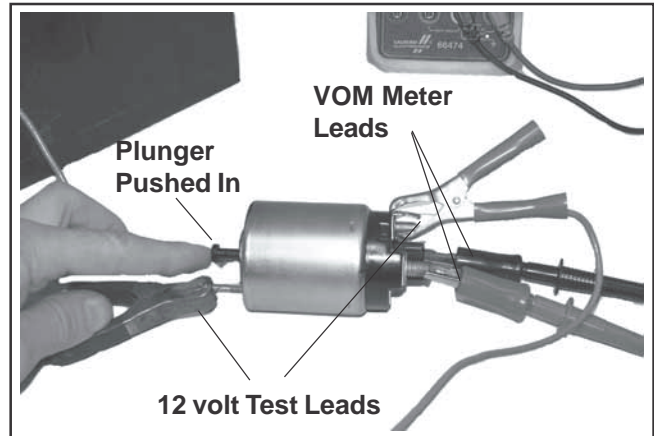

Figure 7-49. Testing Hold-In Coil/Solenoid Contact Continuity.
Use an ohmmeter set to the audible or Rx2K scale, and connect the two ohmmeter leads to the two large post terminals. Perform the preceding test (3) and check for continuity. See Figure 7-49. The meter should indicate continuity. If no continuity is indicated, the solenoid should be replaced. Repeat test several times to confirm condition.